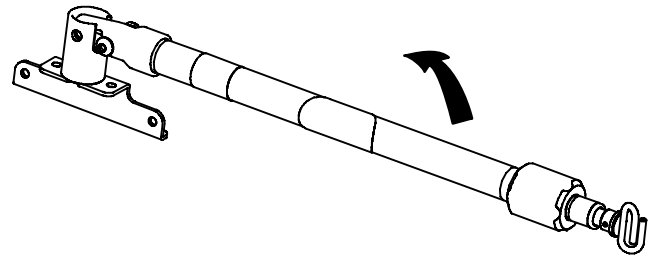

Figure 26 – Three-stage IV pole storage position
1. Lift and pivot the IV pole from the storage position. Push down until the IV pole locks into the receptacle (A).
2. To raise the height of the IV pole, turn the locking collar (B) counterclockwise and pull up on the telescoping section (C). Raise the IV pole to the desired height.
3. Turn the locking collar (B) clockwise to lock the telescoping section (C) in place.
4. For a higher IV pole, pull up on the slide section (D) until the spring clip (E) connects.
5. Hang IV bags on the IV hook (F).
6. To lower the IV pole, push in on the spring clip (E) and slide section (D) down into the telescoping section (C). Turn the locking collar (B) counterclockwise and slide the telescoping section (C) into the bottom tube.
7. Turn the locking collar (B) clockwise to tighten.
8. Lift up and pivot the IV pole down into the storage position (Figure 26).